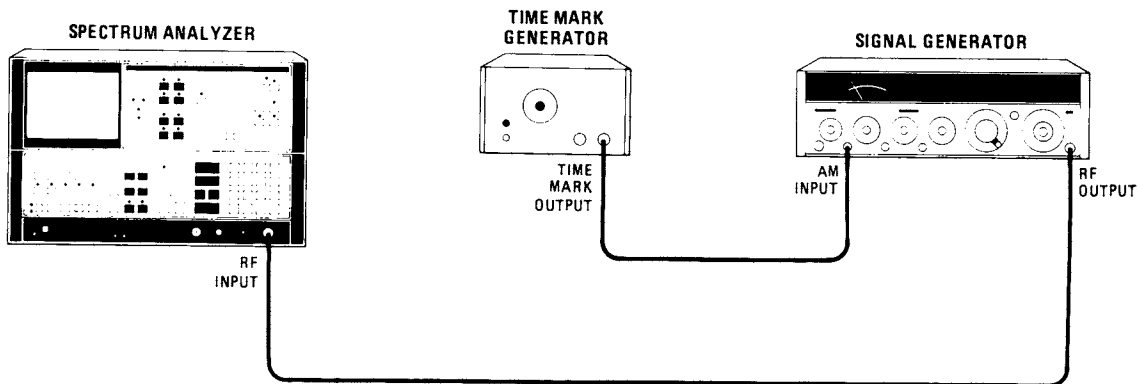

Figure 4-26. Sweep Time Accuracy Test Setup
1. Connect equipment as shown in Figure 4-26. AM switch on 8640B should be in OFF position.